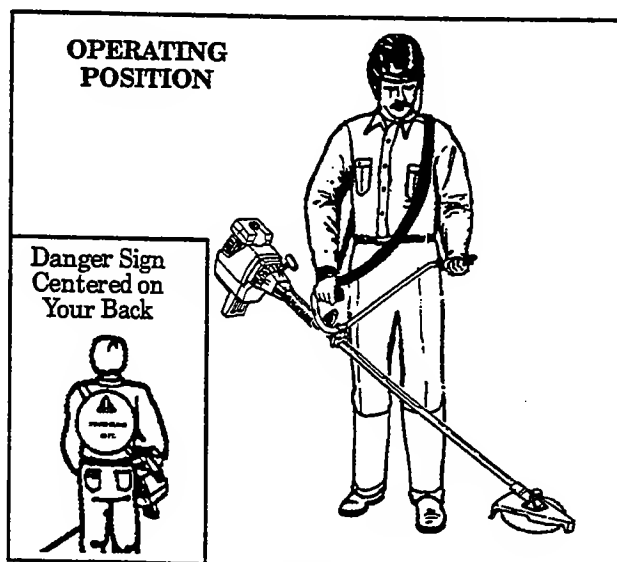

Figure 7
- b. Insert your right arm and head through the shoulder strap and allow it to rest on your left shoulder. Make sure the danger sign is on your back and the hook is to the right side of your waist. Figure 7.
- d. Fasten shoulder strap hook to clamp and lift tool to the operating position. Figure 7.